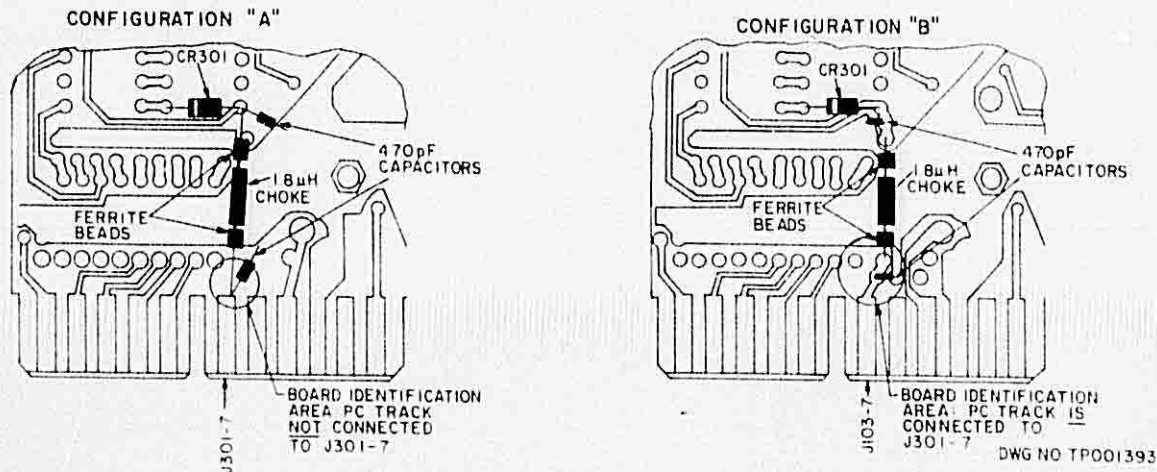

FIGURE 7. DME 890 MAIN PC BOARD (Partial View J301 Area)
E. MODIFICATION TO DME 890 MAIN BOARD: Figure 6 shows the filter circuit that must be added to the DME 890 Main Board. The Main Board has been produced in two configurations. The installer must determine which of the two configurations, "A" or "B", he has. The means by which the boards are identified is whether there is, or is not, a PC track connected to J301-7. Figure 7 shows board configurations "A" and "B". Both of these configurations show the "component side" of the Main Board in the area of the edge connector J301. All DME 890 components have been deleted from these drawings (except CR301) to avoid confusion. The components shown are those which must be added to the Main Board. The following modifications are for board configurations "A" and "B".
Board Configuration "A" Modification (Figure 7)
Board Configuration "B" Modification (Figure 7)